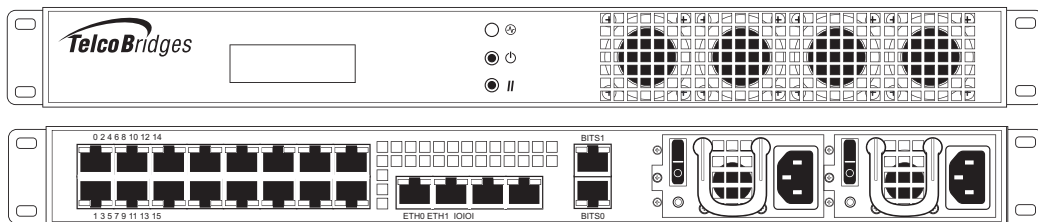

Figure 1.3 TMP6400-TMS Front and Rear Views
- Based upon the configuration of your Tdev TMP6400 Development Platform, the number of TMP6400-TMS media switch(es) may range from zero (0) to two (2). See figure 1.3 on page 3.
- One (1) TMP6400-TMS unit. See figure 1.3 on page 3.
- Three (3) CAT5 Ethernet (blue) straight cables (male-male), 3 meters in length.
- One (1) DB-9 to RJ-45 adapter to interface the serial port of your computer with the RJ-45 port of the TMP6400-TMS.
- One (1) set of mounting brackets and screws, used to mount the TMP6400-TMS to a 19" rack.
- One (1) Important Notice (two-sided document containing pertinent product serial numbers, and other important information).
- One (1) Product Warranty.
- One (1) packing slip.
- One (1) Quick Installation Guide (two-sided document that provides a pictorial view of the equipment setup).
- Two (2) AC or DC power cables